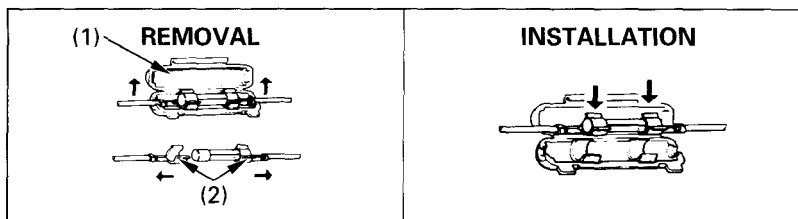

Fig. 4-21 (1) Fuse holder
2. Open the fuse holder (Fig. 4-21) and lift out the fuse with the clips (2).